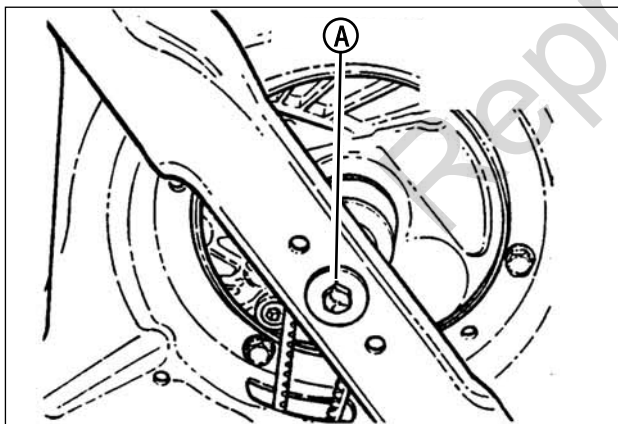

Figure 17: Tightening the blade cap screw
2. Tilt the mower up on its rear wheels for access to the blade cap screw (**A, Figure 17**). Do not tilt the mower with the spark plug or carburetor down.